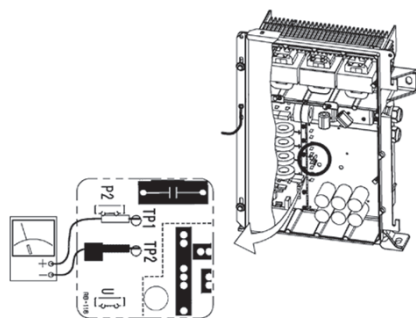

Fig.1 Layout of inverter boards TP1 and TP2
- 2) Before starting the work, open the inverter box cover and check that the voltage between terminals TP1 and TP2 on the inverter board is 50VDC or less. (Fig. 1)